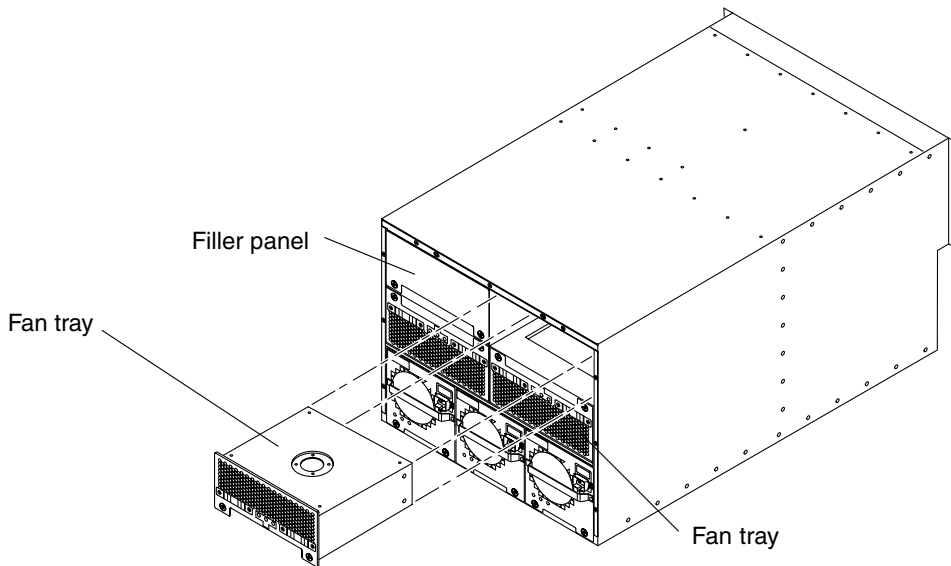

FIGURE 12-29 Removing a Fan Tray—Sun Fire 3800 System
FIGURE 12-29 illustrates how to remove a fan tray from the system.
8. Install the fan trays (FIGURE 12-29).